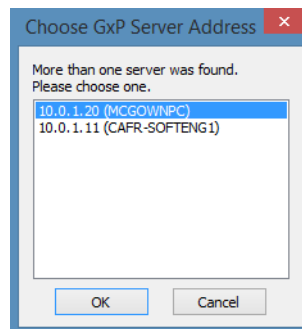

Figure 4-4: ForteBio FB Server Address Search Results
- **Choosing a remote host on same subnet**—If the ForteBio FB Server module is hosted on the same subnet, deselect the **Localhost** check box and click **Find**. A list of potential ForteBio FB Server module addresses will be listed (Figure 4-4). Choose the desired location from the list and click **OK**.